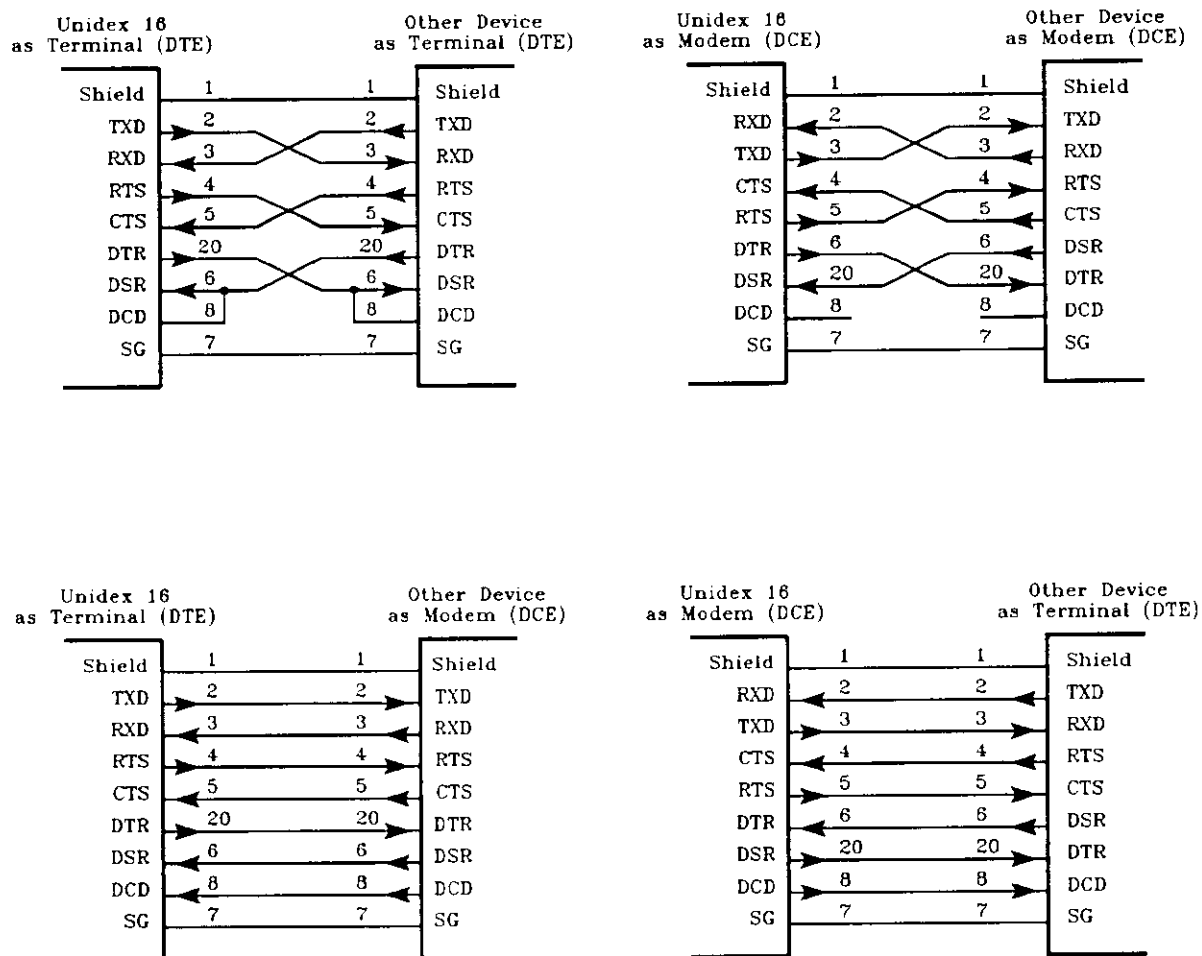

Figure 8-1: RS-232 Configurations
**NOTE:** See figure 8-1 for RS-232 connections